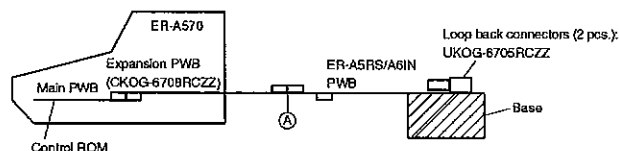

Fig. 7-4
Use an insulator base as that in Fig. 7-4 (shaded section) and perform servicing.
(Note) The option I/F PWB should be held horizontally so that no excessive stress is applied to connecting section ① in Fig. 7-4.